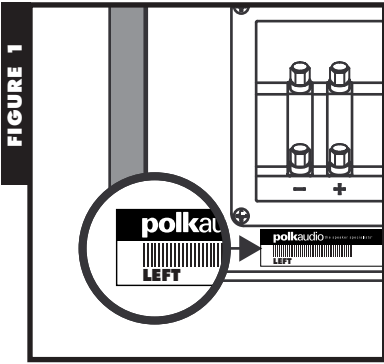
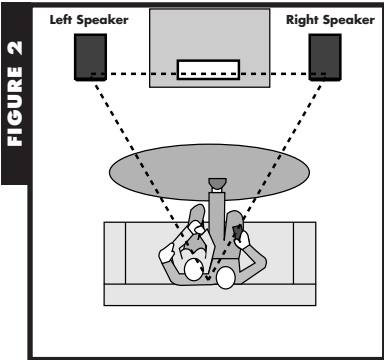

FIGURE 1
FIGURE 2
One LSi Floorstanding speaker is the "left" channel speaker, and the other is the "right" channel speaker. The serial number label identifies which speaker is which **[figure 1]**. The "left" speaker should be placed on the left side of the room as you face the front of the room. To get the most realistic stereo image and lifelike sound, place the speakers so that an equilateral triangle is created between the speakers and your favorite listening position **[figure 2]**. Your LSi Series Loudspeakers are magnetically shielded for safe placement near your TV or video monitor. If you notice video distortion or discoloration, immediately move the speakers away from the TV and call Polk Audio Customer Service Monday – Friday, 9:00 AM – 6:00 PM Eastern Time, (800) 377-7655 (USA and Canada) or email polkcs@polkaudio.com. If your room arrangement forces you to place the speakers farther apart than the distance from which you are listening, angle the speakers toward the middle in order to support a more solid center image. Rubber feet and adjustable carpet spikes are included to provide stability on any type of floor. To install them, lay the speaker carefully on its side and screw in the spikes as far as they will go into the threaded inserts in the base of the speaker. For wood or tile floors, slip a rubber foot over each spike. For carpeted floors, use bare spikes **[figure 3]**. You will achieve optimum performance when the speaker is level and stable in all directions.